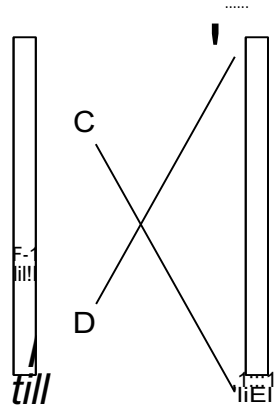

FIGURE 3.
To ensure the system is plumb, use a plumb bob, measure off a dimension (E) from the top of the tower, usually 1" or 2" as shown below (Figure 3). Dimension F should be equal to or no greater than  $\pm\frac{1}{2}$ " of dimension E.